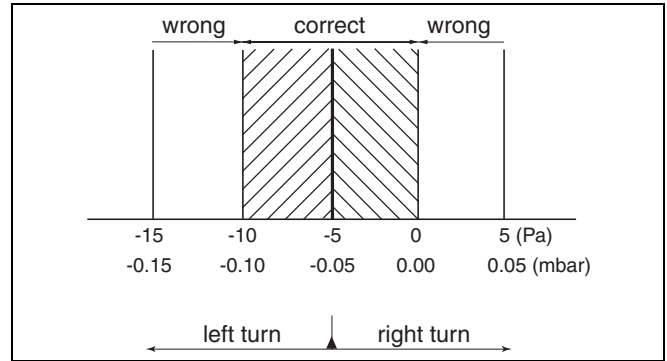

fig. 56 Pressure difference of gas/air ratio at partial load
- The optimum gas/air ratio is - 5 Pa (-0.05 mbar). The pressure difference should be between -10 and 0 Pa (see fig. 56).
- Adjust the adjustment screw of the burner pressure to the correct gas/air ratio using a (4 mm) socket head wrench and by referring to fig. 56.